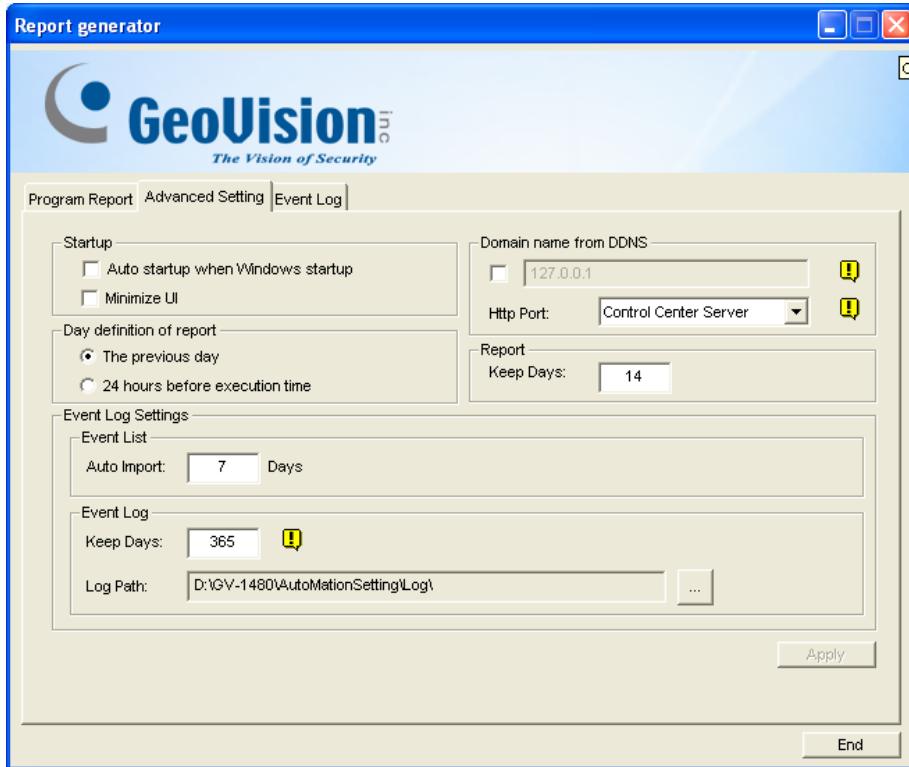

Figure 11-66
- ⊙ If you select **The Previous day** on the Advanced Setting tab (Figure 11-66), the report will be generated on the data of one day before your specified date. For example, you enter "12/10/2007" in the **Select Date** drop-down list. The report is generated on the data of 9th December 2007.
- ⊙ If you select **24 hours before execution time** on the Advanced Setting tab (Figure 11-66), the report will be generated on the data of 24 hours before your specified date
- ⊙ If you select **The Previous day** on the Advanced Setting tab (Figure 11-66), the generated report will contain the data of 7 days before your specified date. For example, you enter “12/10/2007” in the **Select Date** drop-down list. The report is generated on the date from December 3rd to 9th in 2007.
- ⊙ If you select **24 hours before execution time** on the Advanced Setting tab (Figure 11-66), the generated report will contain the data of 7 days counting back on your specified date and time. Specify the date and time by using the **Select Date** and **Select Time** drop-down lists. For example, if you enter “12/10/2007” and “01:00”, the report is generated on the time from 01:00 am, December 10th to 01:00 am, December 4th, 2007.
3. If the **Domain name from DDNS** option on the Advanced Setting tab (Figure 11-66) is not selected, this dialog box will appear.